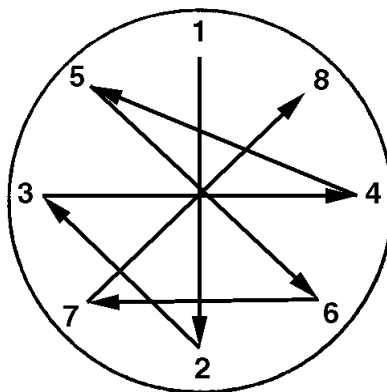

Figure 3. Cap Attaching Screw Tightening Sequence
- f. Put spring (12) in piston (14). Put assembled cap (3) on valve body (31). Align tubes (26 and 27) with the hole in cap (3) and install. Make sure spring (12) remains upright and press downward into cap (3) and install two screws (4).
- g. Install remaining screws (4) and secure evenly in the sequence shown in Figure 3 (starting point optional). Torque screws (4) to  $10 \pm 0.5$  in-lb.